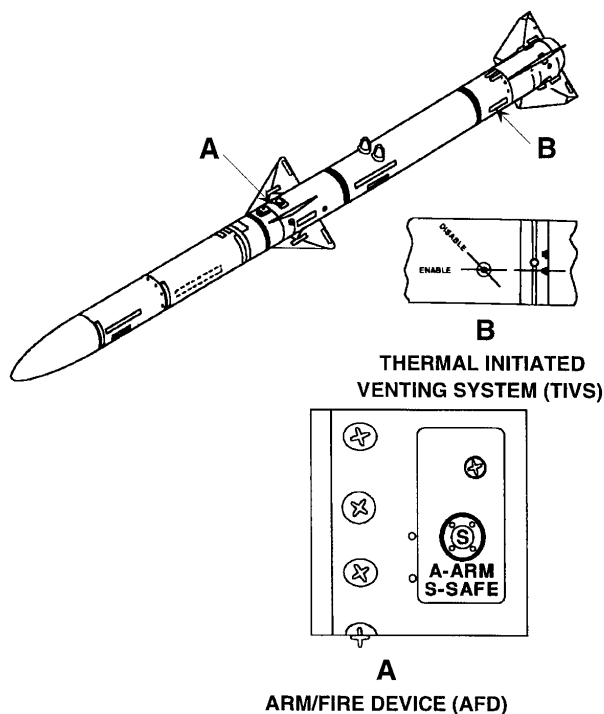

Figure 7. AIM-120 Arm/Fire Device (AFD)/Thermal Initiated
1. ADF indicates white "S" on green background (Fig. 7)()